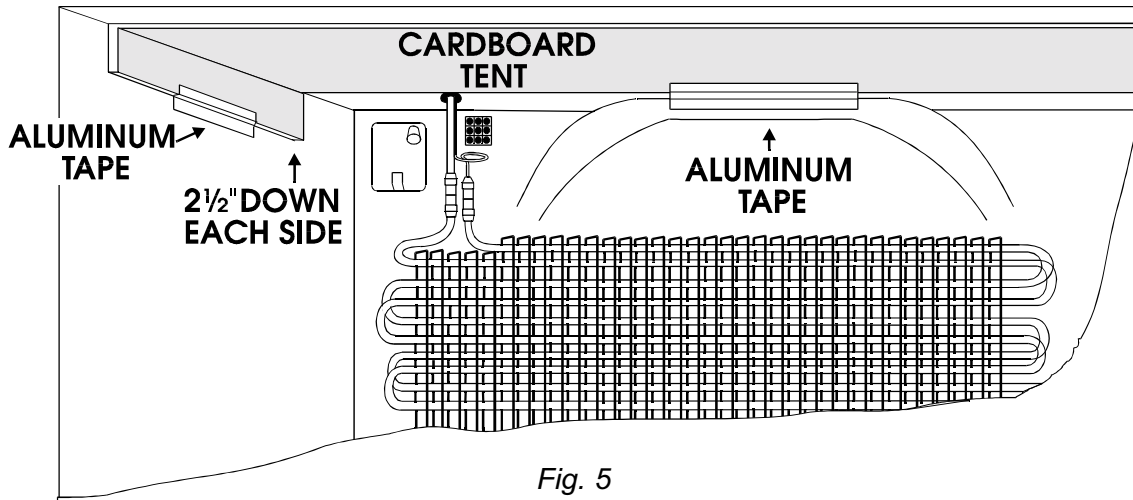

Fig. 5
17. Cut and fold the cardboard material that was provided in the service kit to create a tent to cover the entire top of the freezer compartment and approximately two and a half inches down each side. (Fig. 5)